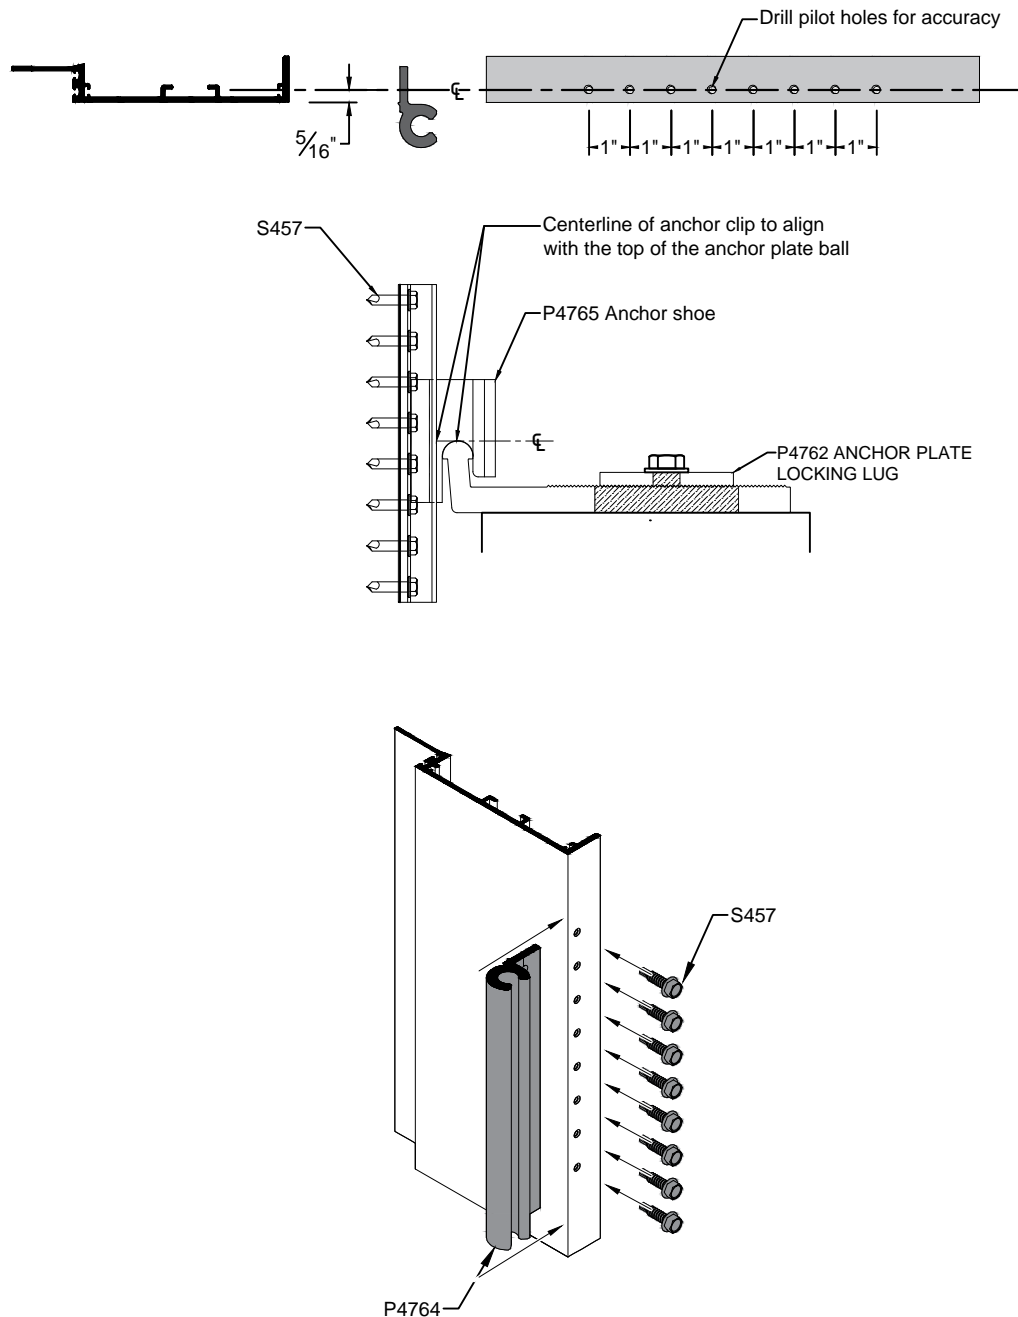

Fig. 34.1
- A. Locate the anchor clips for each vertical so the center line of the clip aligns with the top of the anchor plate ball. Attach to the vertical with (8) S457 ¼" x 1" HWH self-drilling screw per approved shop drawings. See Fig. 34.1.